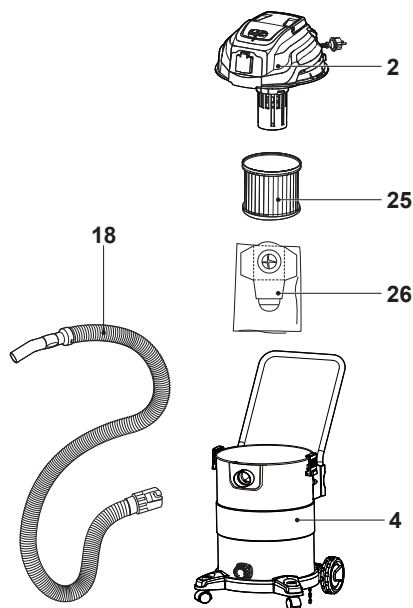

Fig. 7 Dry vacuuming and blowing
- with cartridge filter (25) and dust bag (26) assembled for dry vacuuming and blowing (Fig. 7)